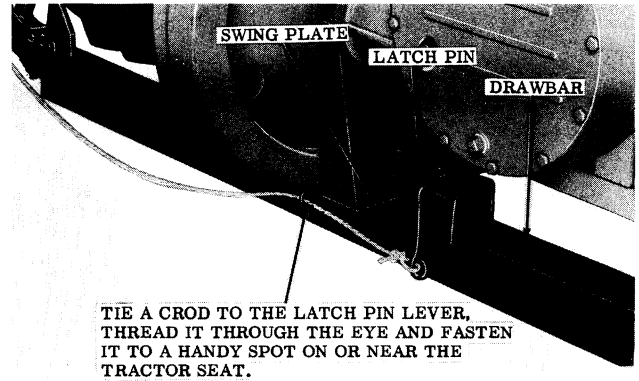

Figure 6. Drawbar on Swing Plate
1. Raise the drawbar latch pin. From the left side, slide the front of the drawbar onto the swing plate of the baler frame. See Figure 6.